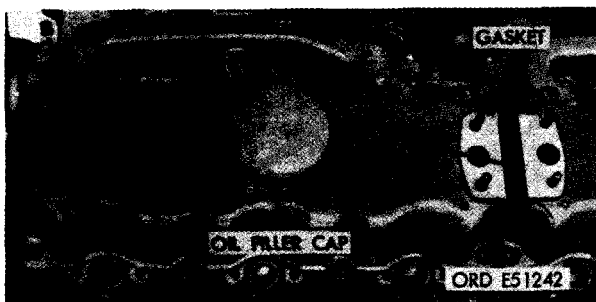

FIGURE 503. INSTALLING FRONT CYLINDER HEAD COVER.
Figure 503. (A) Position a new front cylinder head cover gasket and cover on front cylinder head and align screw holes. (B) Install seven 5/16- inch lock washers and 5/16 x 7/8 cap screws to temporarily hold cylinder head cover to cylinder head. Install one 5/16-inch plain washer and 5/16- inch self-locking nut. (C) Install oil filler cap. (D) Position a new crankcase breather adapter gasket on each cylinder head cover.